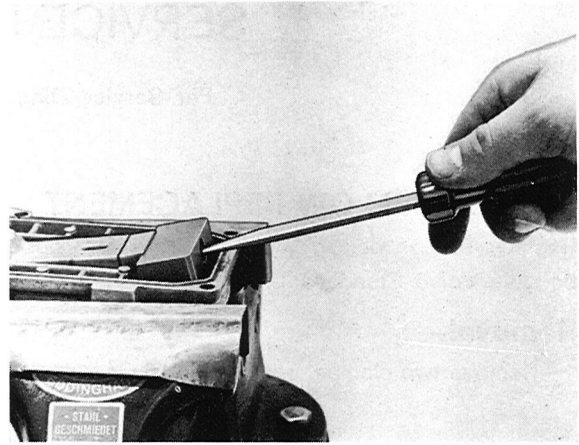

Fig. 2-183. Removal of counterweight retaining screw
5. Remove the screw for the lever counterweight, see Fig. 2-183, and remove the counterweight.